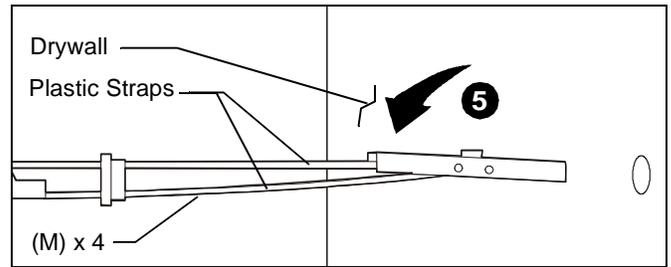

Figure 6
5. Hold metal channel on anchor (M) flat alongside plastic straps and slide channel through hole. (See Figure 6)